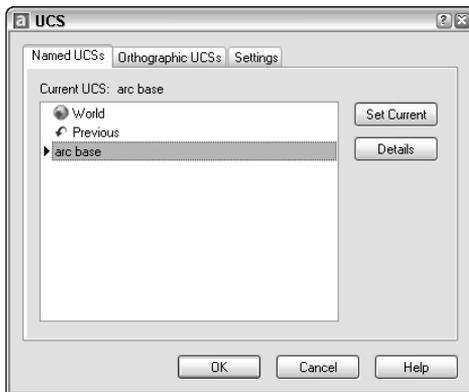

Figure 8-20: Use the UCS dialog box to save and restore a UCS.
2. Choose Tools ⇨ Named UCS to open the UCS dialog box with the Named UCSs tab on top, as shown in Figure 8-20. If your current UCS is not named, it is listed as `Unnamed` and highlighted. Previously named UCSs are also listed. You can also use this dialog box to return to the previous UCS or the World Coordinate System (WCS).